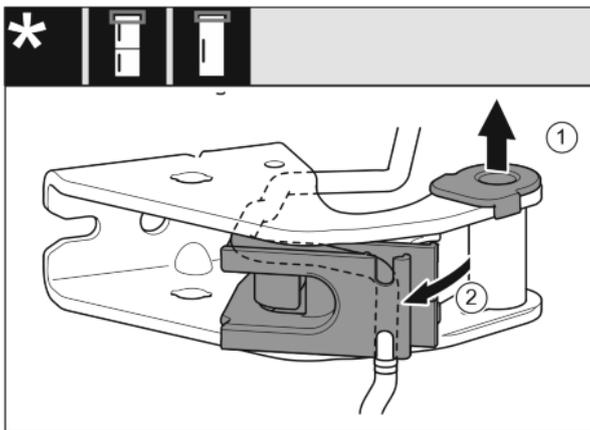

Fig. 21
- ▶ Pull the bearing bush out of the guide. Fig. 21 (1)
- ▶ Swing the cable holder out. Fig. 21 (2)